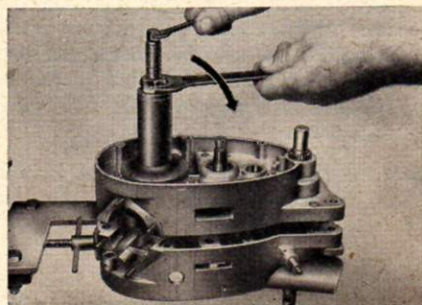

Fig. 48 Drawing crankcase together
7. Slide washer over the right hand crank pin, replace right hand half-member with fitted ball bearing and tighten with replacing assembly as illustrated in fig. 48.